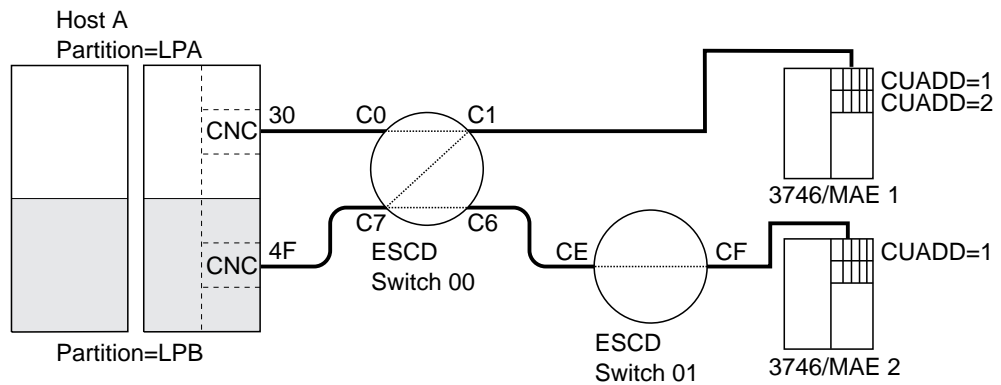

Figure 22-8. ESCON Channel Configuration Example
Figure 22-8 on page 22-20 shows an example of an ESCON configuration. The S/390 host is divided into two logical partitions (LP): LPA and LPB. A connection on path 30 is configured between LPA and MAE1 through ESCD switch 00. LPA is attached to ESCD port C0 and MAE1 is attached to port C1. The connection between port C0 and C1 is dynamic.
The following example definitions match Figure 22-8: